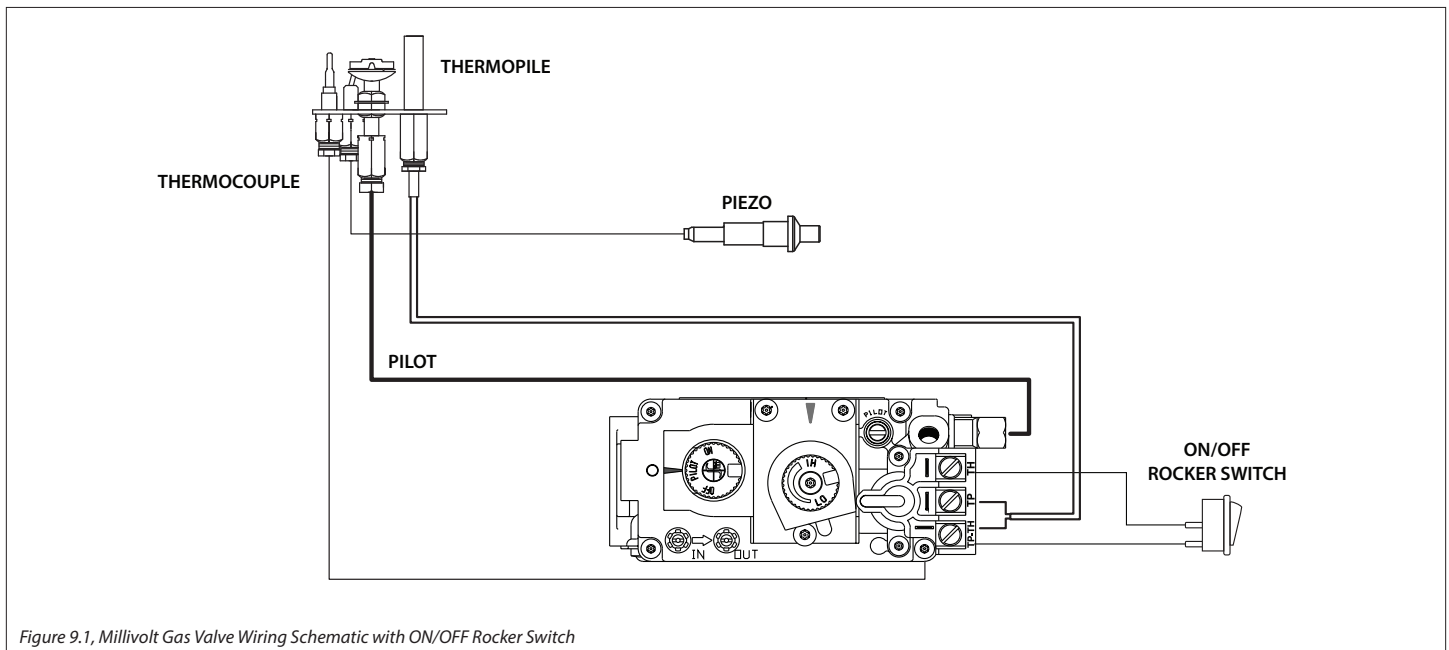

Figure 9.1, Millivolt Gas Valve Wiring Schematic with ON/OFF Rocker Switch
- by disconnecting the wires from the back of the gas valve (Figure 9.1).